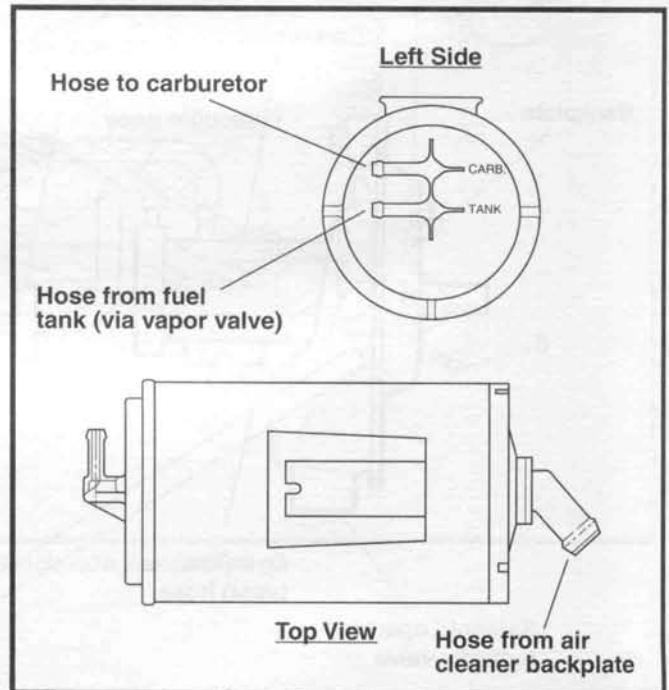

Figure 4-21. EVAP Canister
5. See Figure 4-21. Note the two hose connections on the left side of the canister. To ensure correct assembly, mark the hose to match the stamps on the canister. After the hoses are marked, gently pull the hoses off the canister.